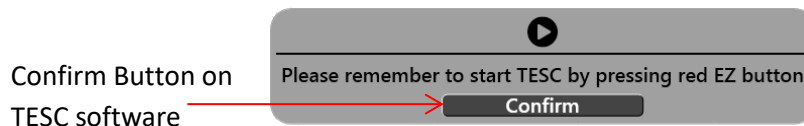

Figure 63: Confirm Button
13. In the TESC software on the PC, press the **Confirm** button. Refer to Figure 63.